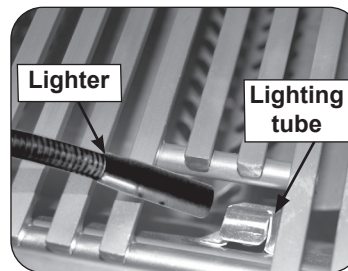
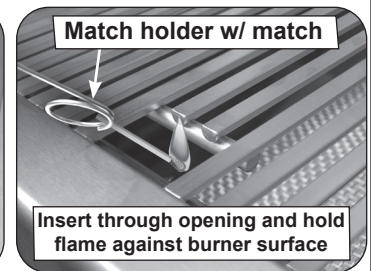

Fig. 37-2 Manual lighting via lighting tube
Fig. 37-3 Manual lighting via match holder
2. Insert either a burning long-barrel butane lighter or a burning long-stem match through the cooking grid opening to the top of the lighting tube. (Fig. 37-2). For backburners or infrared burners, hold the flame against the surface of the backburner/infrared burner. For charcoal burners, hold the flame near the burner. Grills equipped with an infrared burner include a wire extension match holder (attached to drip tray) to assist with manual lighting (Fig. 37-3).
4. If the burner does not light within five (5) seconds of turning the control knob, **immediately depress the knob and turn the valve to OFF**. **WAIT FIVE (5) MINUTES** before repeating steps 2 through 4 of the MANUAL LIGHTING instructions.